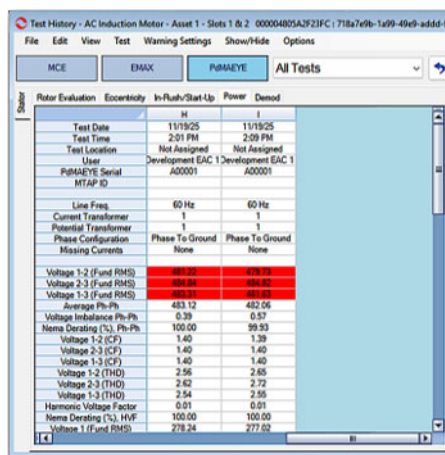

Figure 75: Test History
- The Test History window appears (Figure 75).